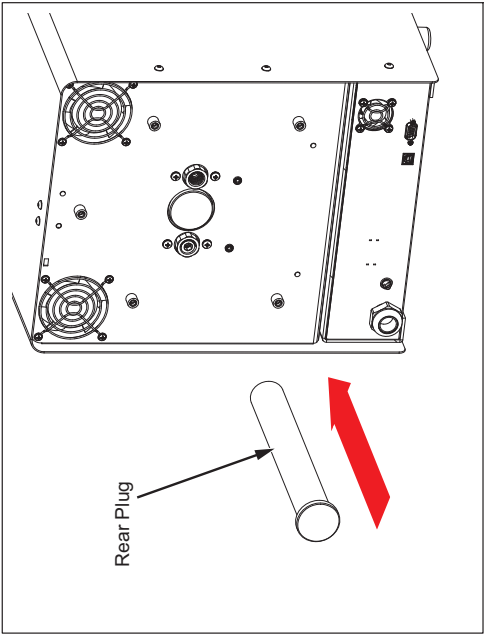

Figure 8. Rear Plug Insertion
3. This step is only for the optional isothermal block (9118A-ITB). Insert the rear plug carefully into position. See Figure 8.